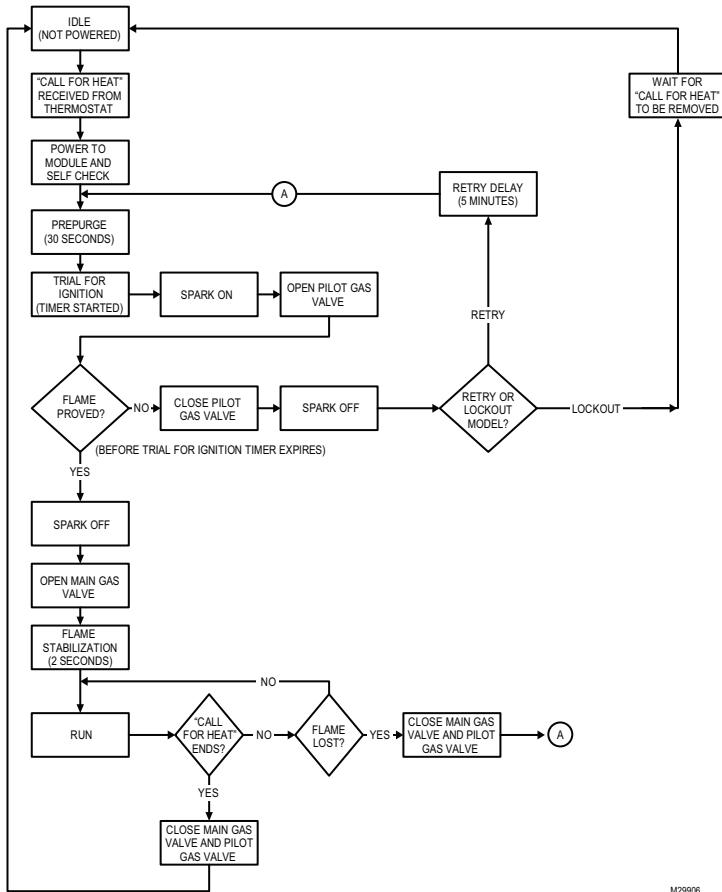

Fig. 11. Normal Operating Sequence for Prepurge Models.
- Prepurge (S8670 models only)—See Fig. 11